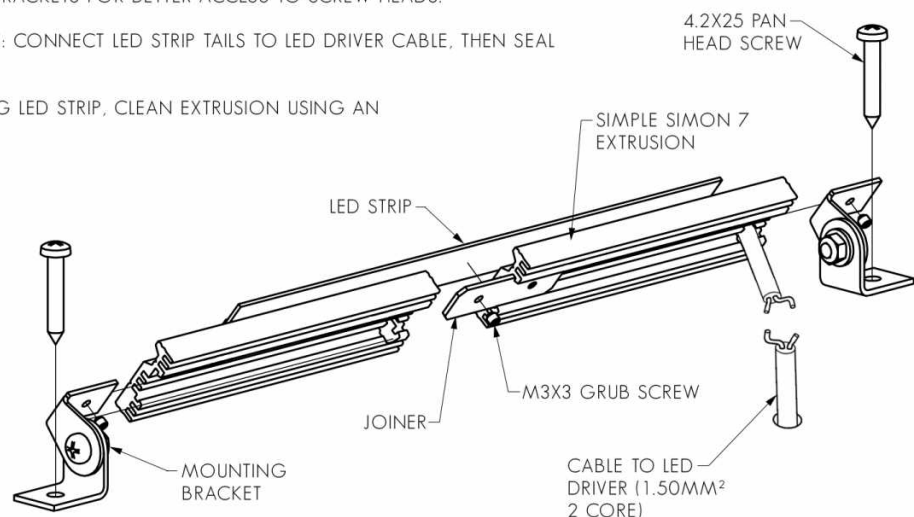

FIG. 1 - ENSURE EXTRUSION IS MOUNTED SECURELY. ROTATE IF REQUIRED.
2. SLIDE ADJUSTABLE MOUNTING BRACKETS INTO EXTRUSION (SEE FIG. 1) AND LOCK IN PLACE USING GRUB SCREWS PROVIDED. BRACKETS SHOULD BE NO FURTHER THAN 850MM APART AND NO FURTHER THAN 300MM FROM AN END OR A JOIN.